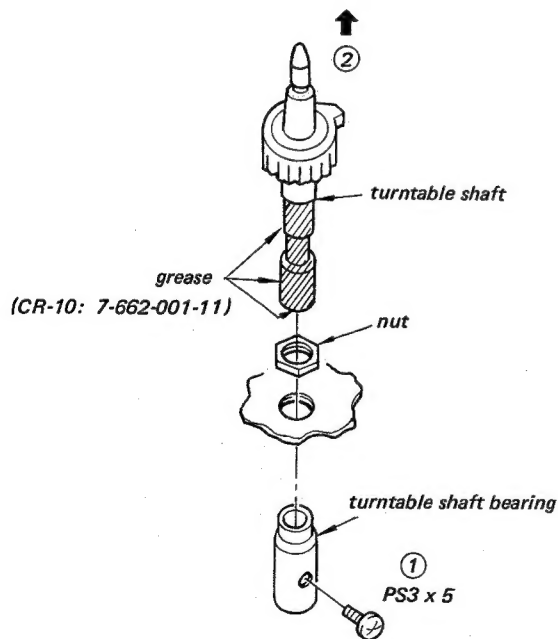

Fig. 2-17
2. Remove the nut as shown in Fig. 2-17.